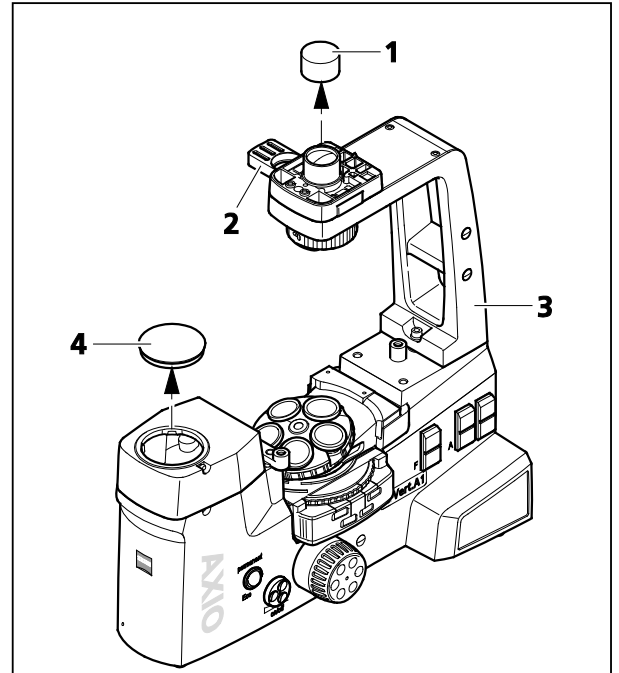

Fig. 3-1 Unpacking and Setup
- Place the microscope stand (Fig. 3-1/3) on a non-vibrating, even, hard and non-flammable worktop.
- Remove the protective caps (Fig. 3-1/1 and 4).
The filter slider (Fig. 3-1/2) is fixed-mounted, while appropriate filter glasses (green filter, attenuation filter, conversion filter) are not yet inserted during transport.